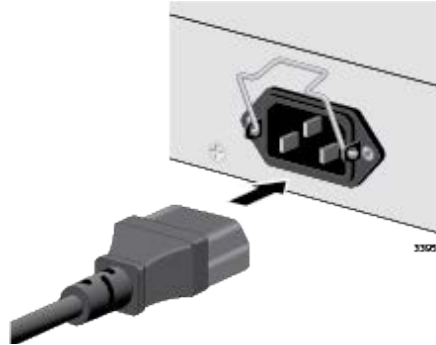

Figure 64. Connecting the AC Power Cord
2. Connect the AC power cord to the AC power connector on the rear panel. See Figure 64.